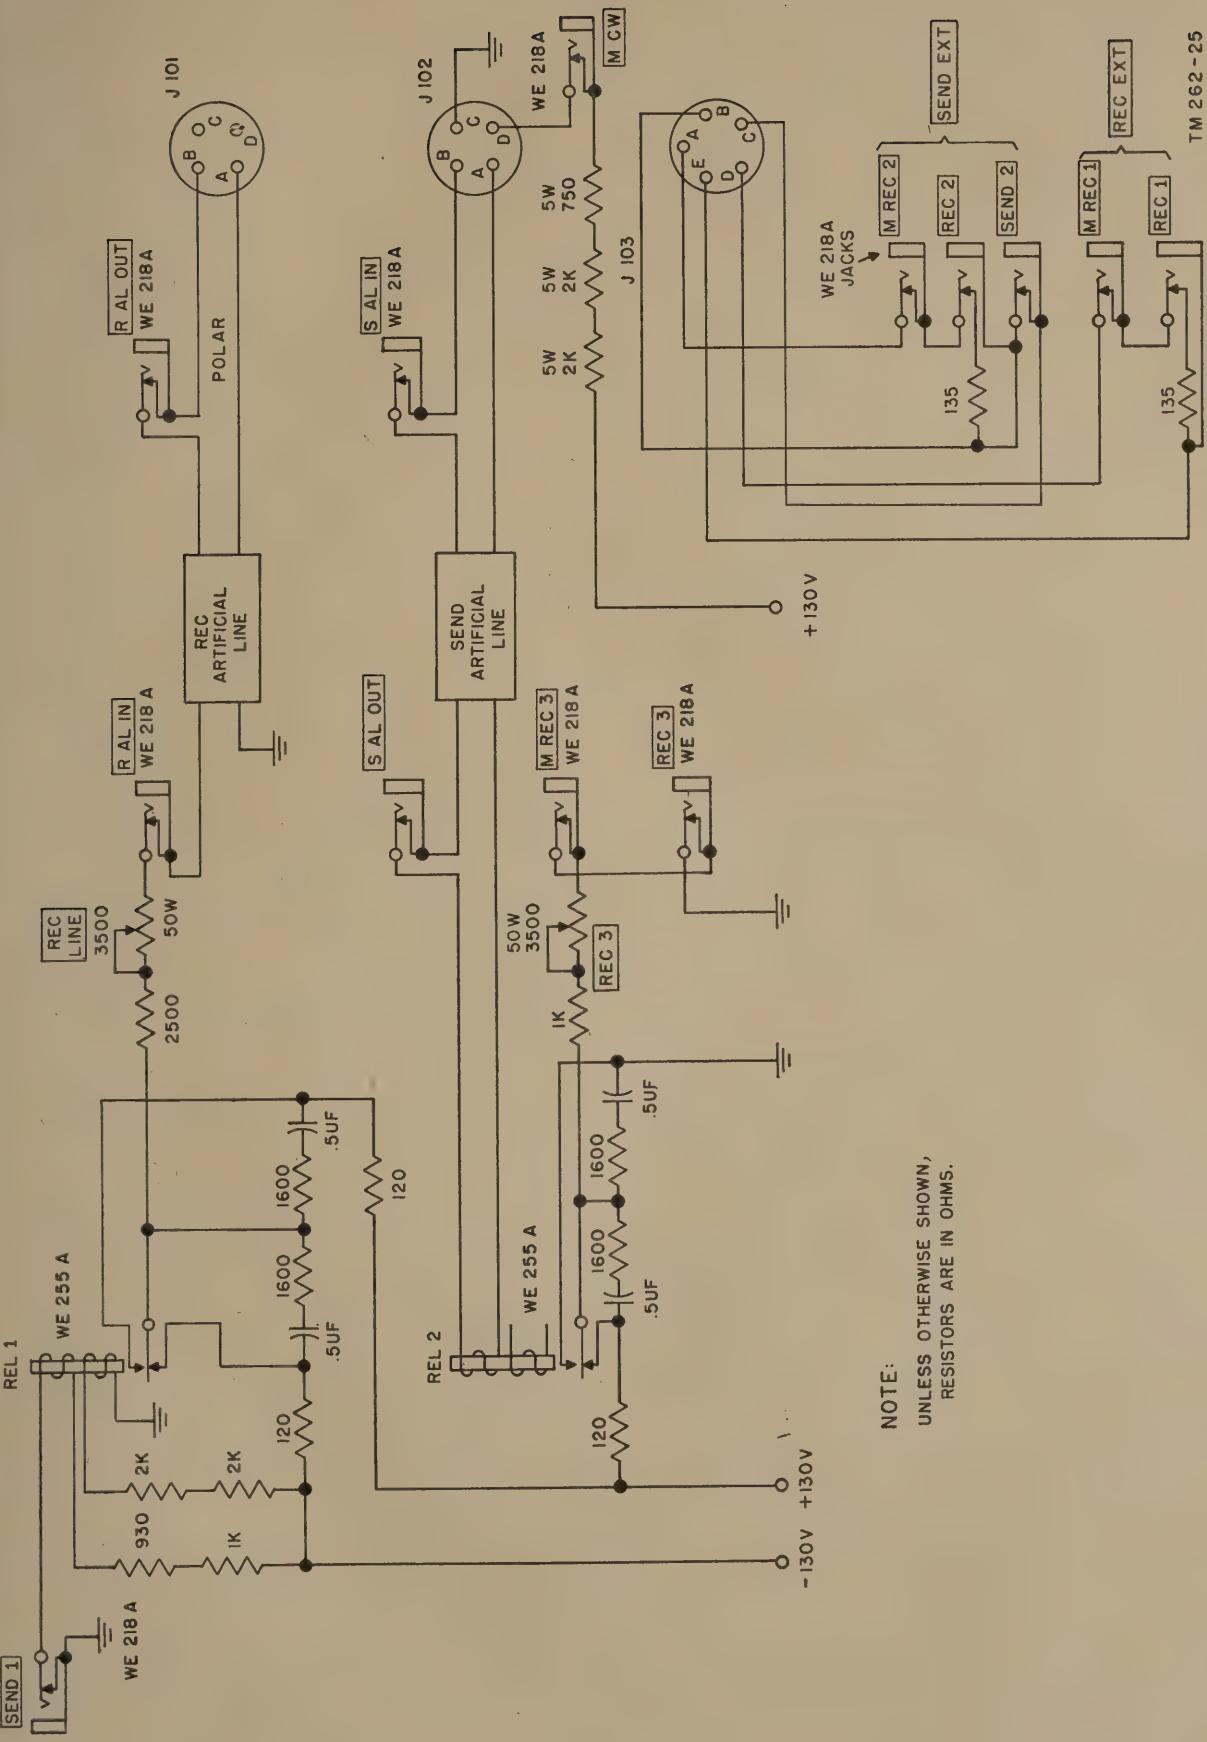

Figure 29. Final test set-up.
ment and the necessary skills. Repaired equipment meeting these specifications will furnish uniformly satisfactory operation. The construction of the test set-up and the artificial line described in this section (figs. 29 and 30) may not be warranted if only one (or a few) control unit is to be repaired.
Control unit test set-up and 10 miles of artificial line (figs. 29 and 30).
(1) Reduce the variac output to zero as indicated by the a-c line voltmeter; then make the following connections between the test panel (fig. 29) and the unit under test: